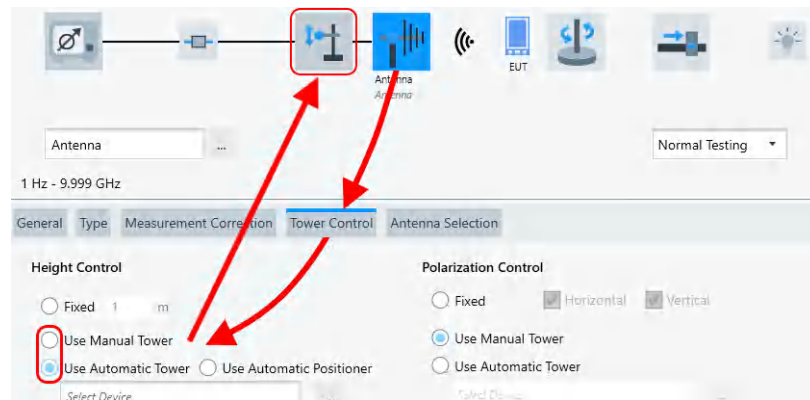

Figure 4-140: Integrating an antenna tower into the Electric Field Strength hardware setup
- c) Select a manual or automatic tower for height control, as in Figure 4-140. Optionally configure the tower properties.